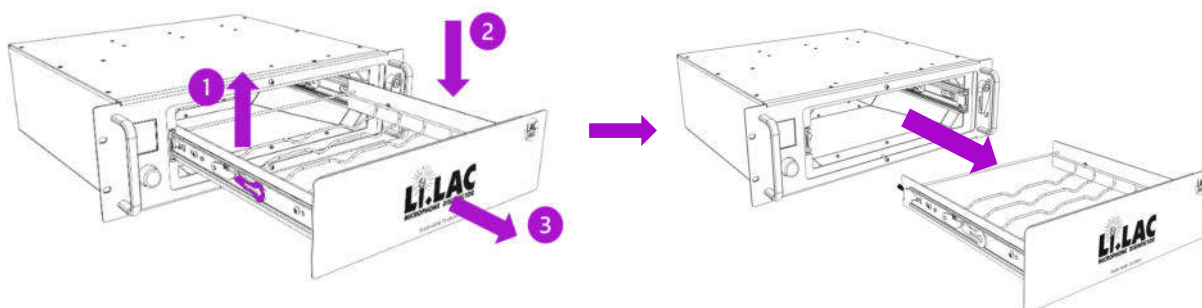

Fig. 9
4. Locate the locking hooks in the lateral telescopic rails (Fig.9). Pull up the left locking hook (1) and push down the right locking hook (2) at the same time. Keep the hooks in this position and pull the drawer forward (3) to remove.